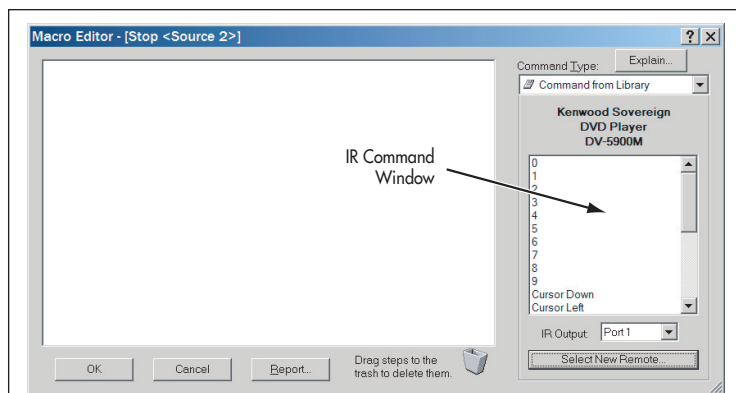

Figure 47:
5. Select the device. Its commands will appear in the small IR COMMAND WINDOW on the MACRO EDITOR Screen (see Figure 47).